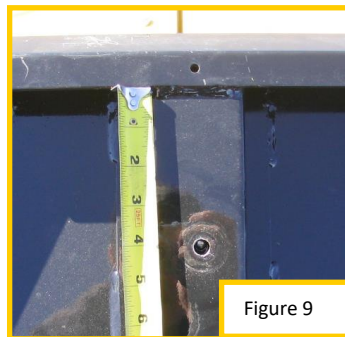
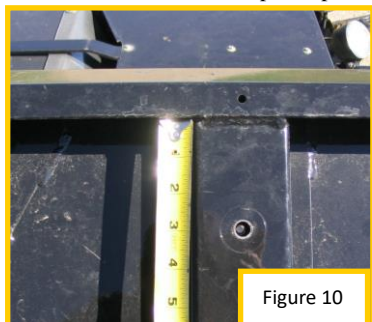

Figure 9
Figure 10
Put the hoods back together so the bolt goes through the other hood and screw the knob on to clamp the hoods together. (see Figure 9) With all hoods on the combine place the middle support bracket between the hoods. You have to push the hoods apart to get the bracket in-between the hoods. The hoods sit in-between the plates the middle support bracket. This will keep your hoods at the correct spacing and height. (see Figure 10) Position the middle support bracket so the pipe is at the splice of the hoods. Makes sure the bracket is below the top of the hood and drill a 1/4" holes through the hood and the back tab of the bracket. Use the holes in the bracket as a template. Insert the 1/4" x 1-3/8" quick lock pins to secure the bracket in place. (see Figure 10) Repeat for other side.
**Step 2: Front Rolltube Assembly Installation** (See Figure 9)
**Step 3: Rear Rolltube Assembly Installation** (See Figure 10)